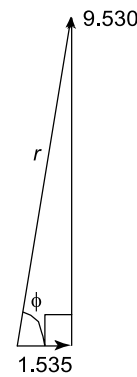

Figure 5.27
- (v) The components are shown sketched in Figure 5.27.